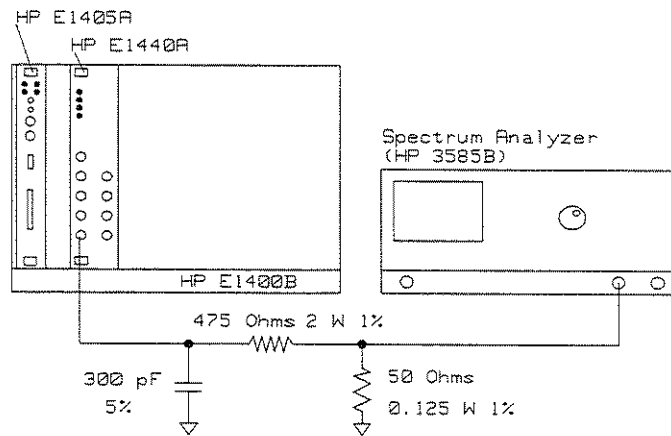

Figure C-3.
- Connect the HP E1440A signal output to the analyzer high-impedance input as shown in Figure C-3.